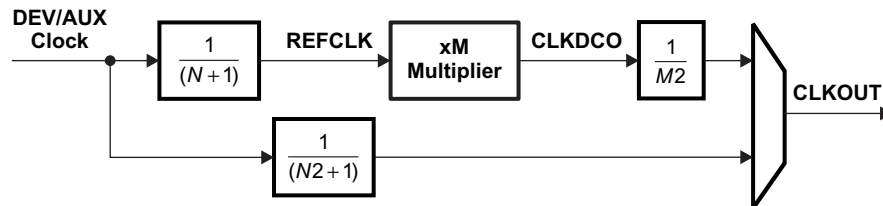
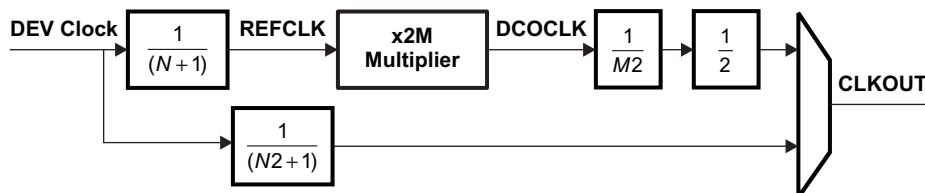

Figure 8-17. Top-Level PLL Simplified Block Diagram
Figure 8-18. PLL_ARM Simplified Block Diagram
The device contains 12 top-level PLLs, and 4 embedded PLLs (within the) that provide clocks to different parts of the system. Figure 8-17 and Figure 8-18 show simplified block diagrams of the Top-Level PLL and PLL_ARM. In addition, see the System Clocking Overview (Figure 8-6) for a high-level view of the device clock architecture including the PLL reference clock sources and connections.
(1) This parameter describes the limits on the programmable multiplier value M. The multiplication factor for the PLL_ARM is equal to 2 * M (also see Figure 8-18).
(2) The PLL Multiplier supports fractional values (up to 18-bits of fraction) except when the PLL Multiplier is < 20 OR > 2045.